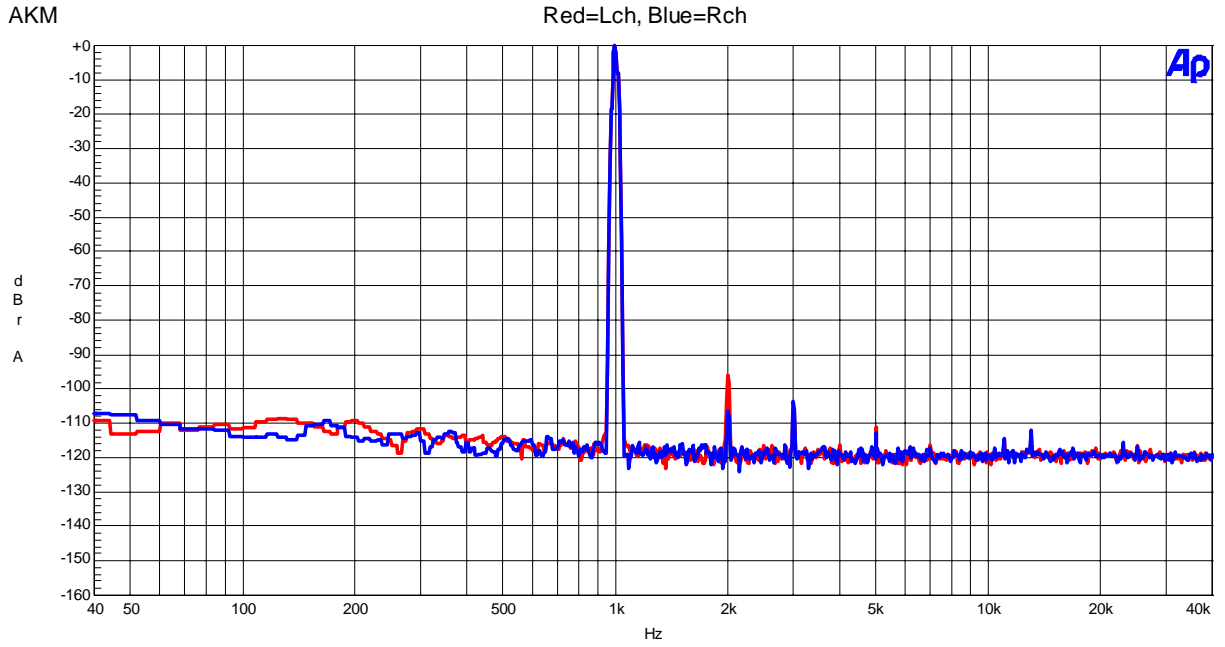

Figure 32 FFT (1kHz, 0dBFS input)
- Figure 32 FFT (1kHz, 0dBFS input)